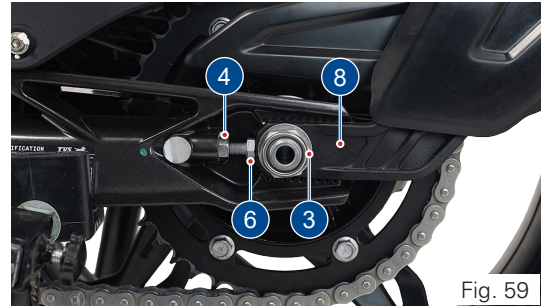

Fig. 59
- Remove the axle mounting nut (3, ref. Fig 59) using the proper tool from the tool kit (ref. page 155).
- Release the lock nuts (4 & 5) and screw-in the adjuster bolts (6 & 7) (ref. Fig. 59 & 60).